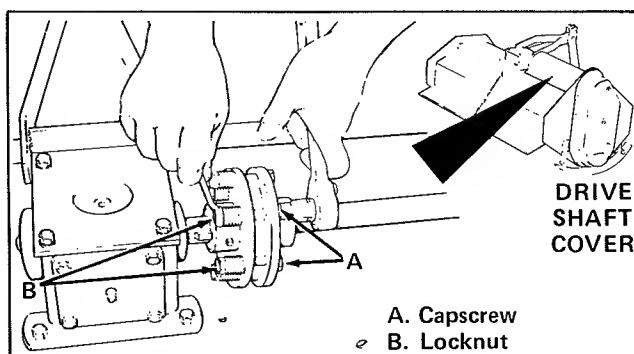

Figure 13. Slip Clutch Adjustment
1. Remove six screws that secure crossdrive shaft cover (figure 13). Then remove cover.